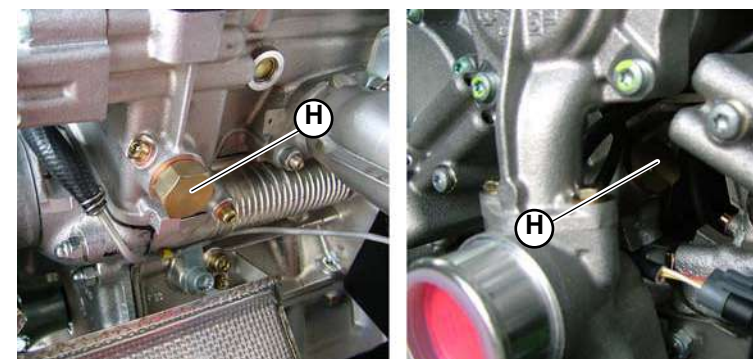

Fig.9
9. Install the hydraulic tightener with its washer (**H-Fig.9**).